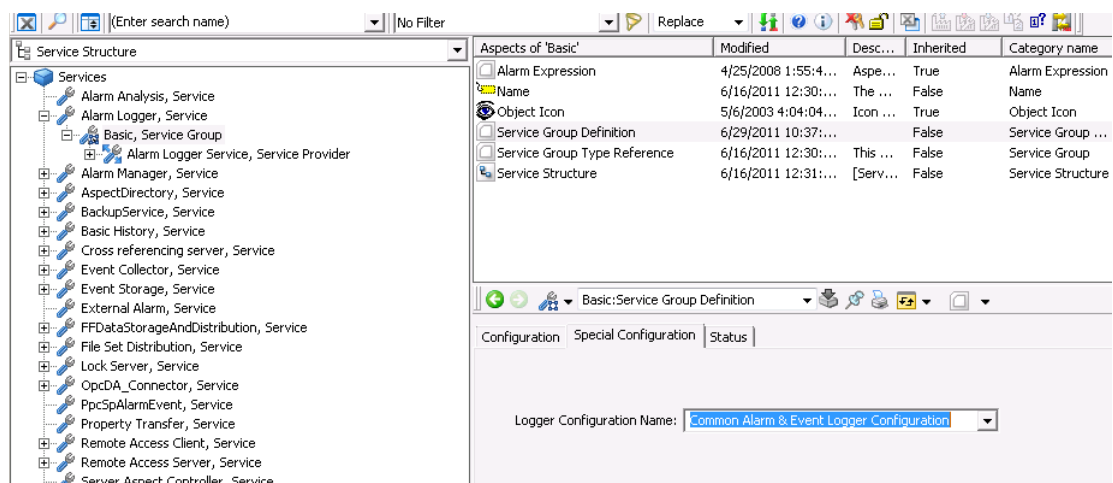

Figure 74. Service Group Definition Aspect - Special Configuration Tab
3. Select Basic, Service Group and open the Service Group Definition aspect and its configuration view, refer to Figure 74.